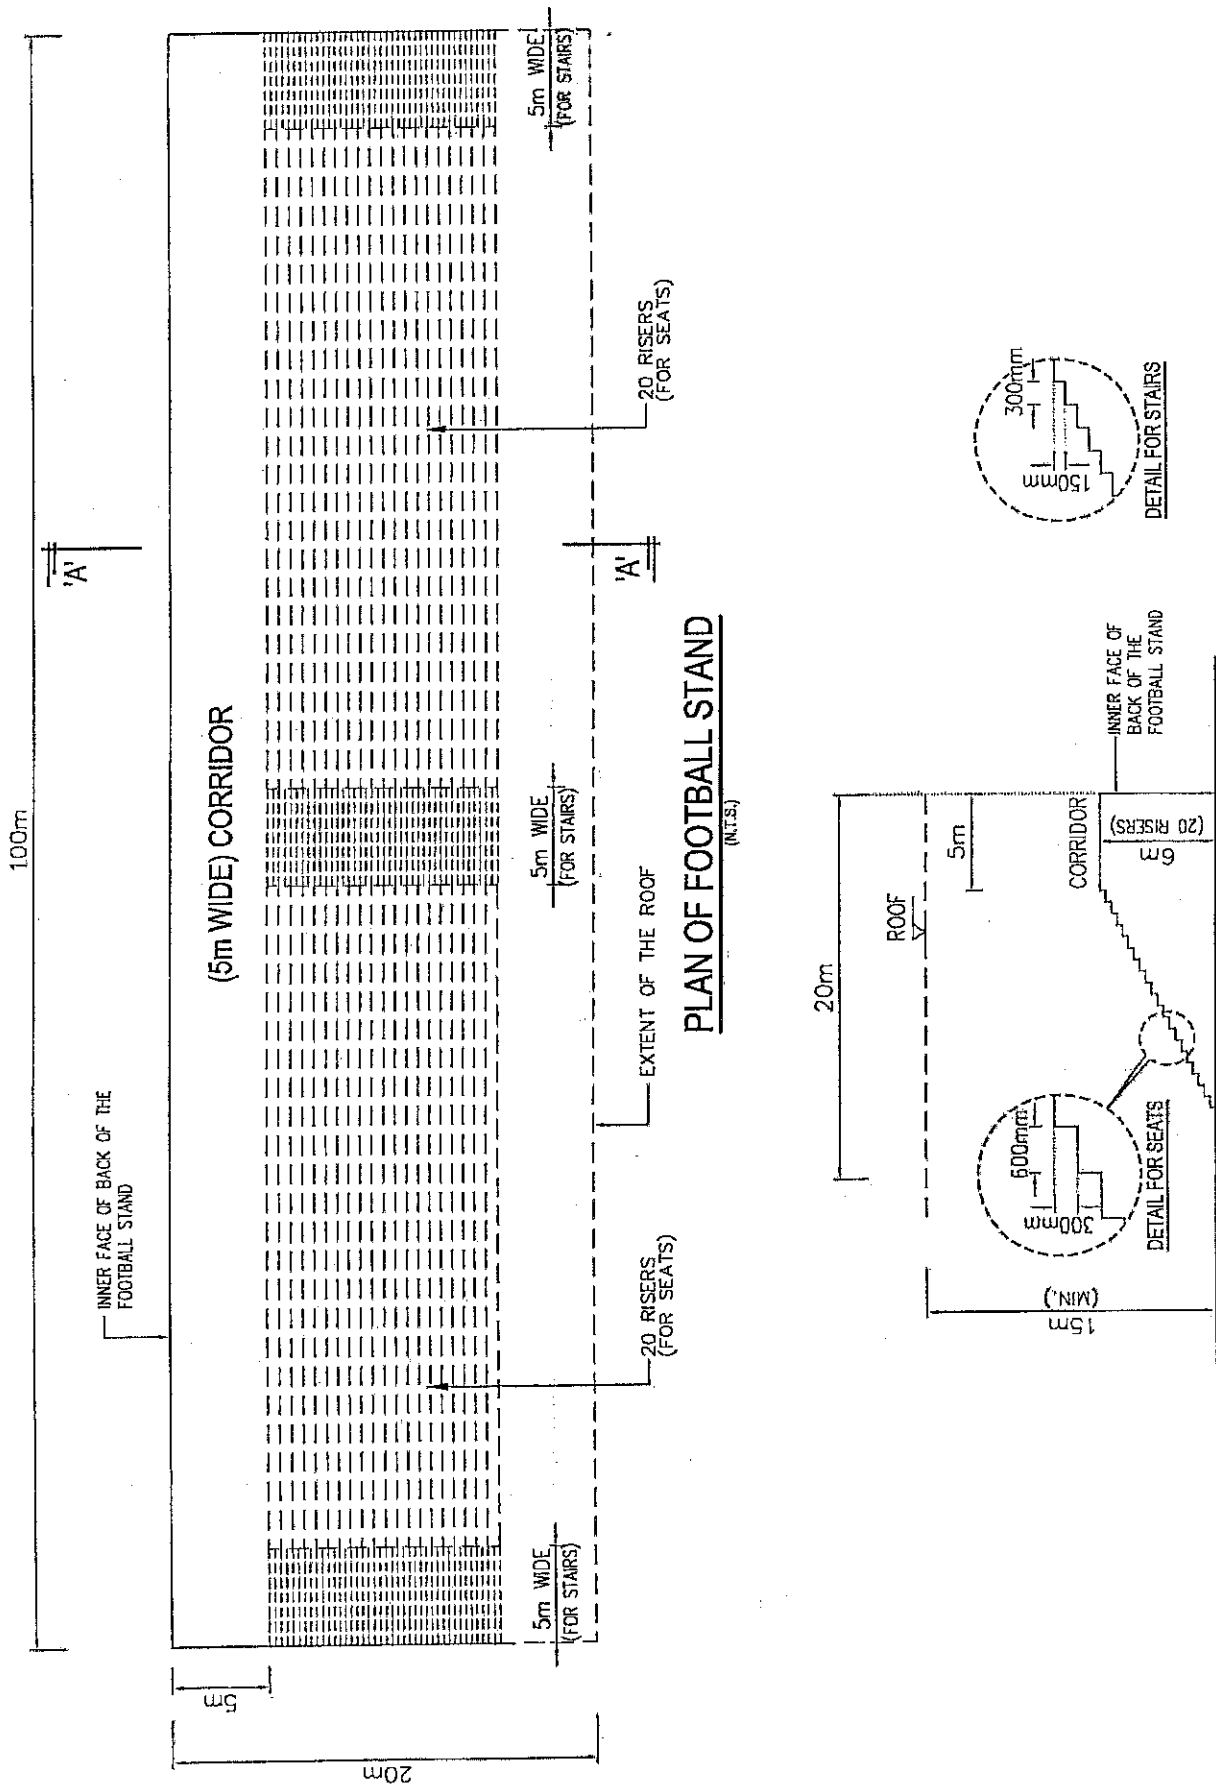

Figure Q3
1. A football stand for a local football club is proposed in the city centre as shown in figure Q3.